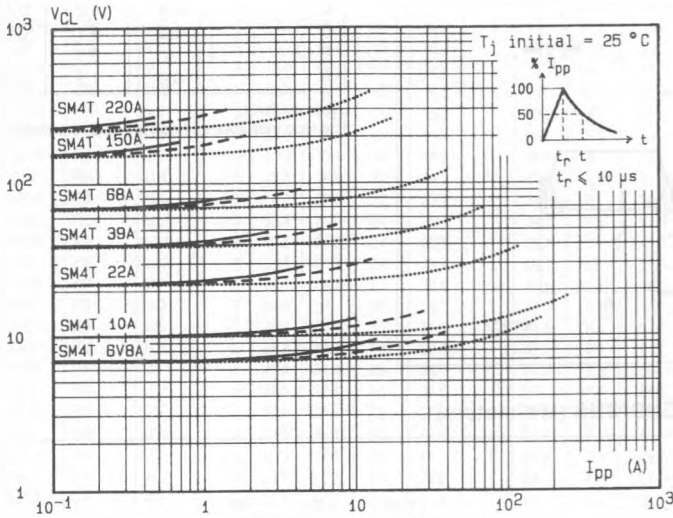

Fig.2 - Clamping voltage versus peak pulse current.
Note : The curves of the figure 2 are specified for a junction temperature of 25 °C before surge. The given results may be extrapolated for other junction temperatures by using the following formula : $\Delta V (BR) = \alpha_T (V (BR)) \times [T_j - 25] \times V (BR)$